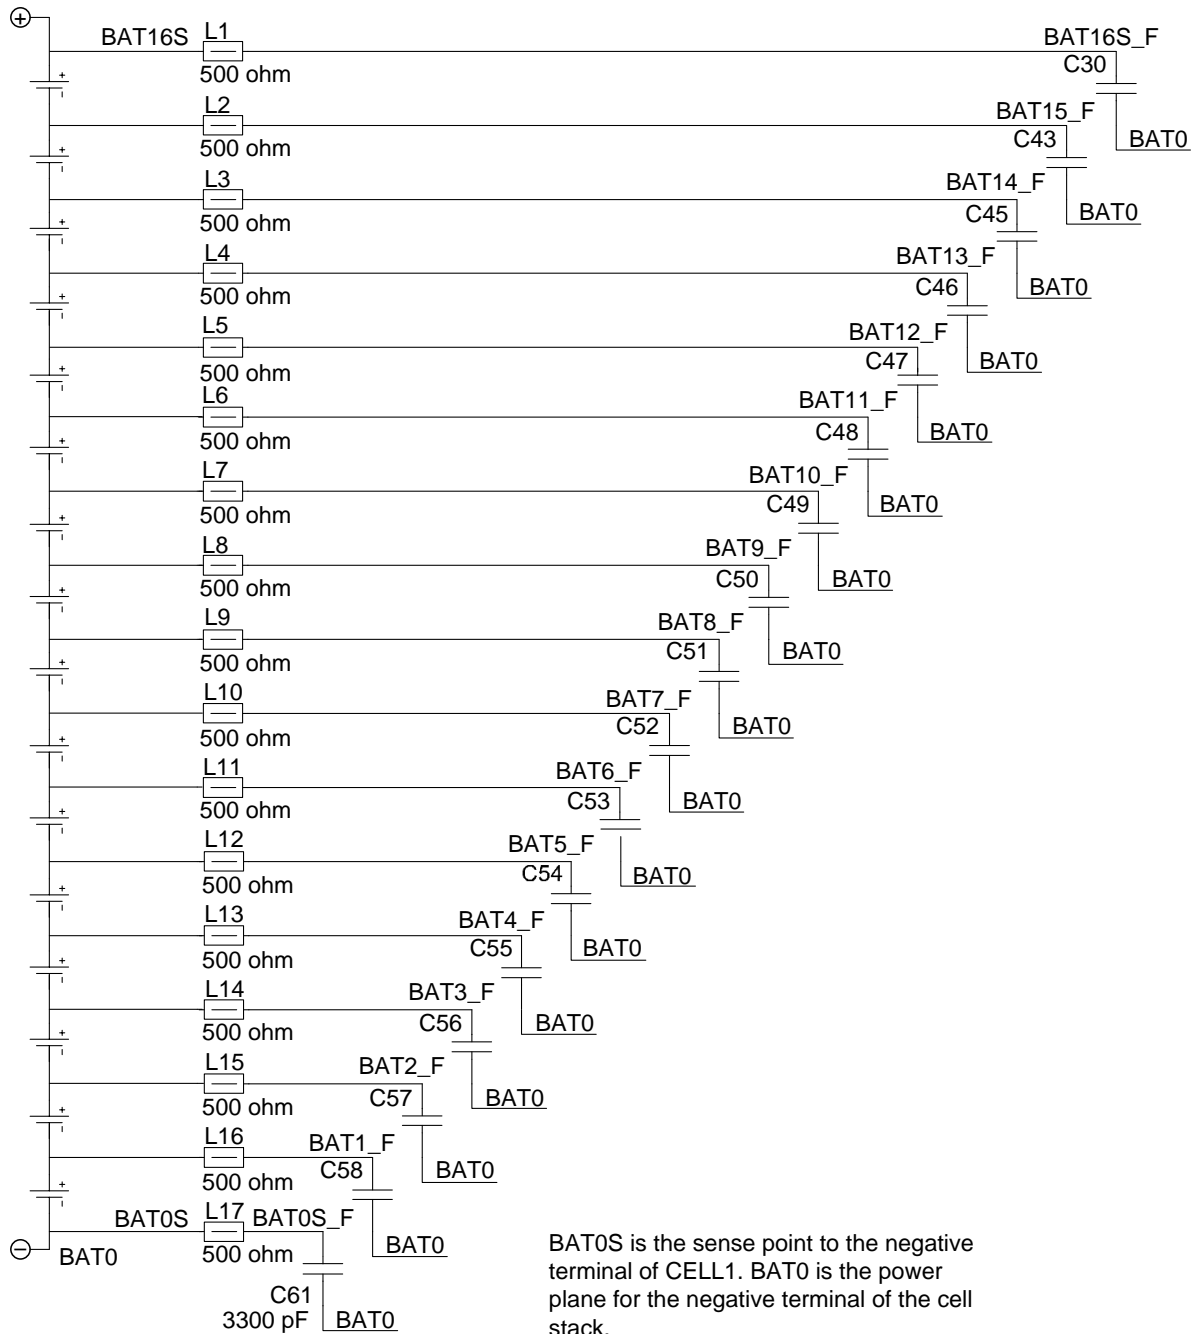

Figure 29. EMC Filter on Cell Inputs
- Add a 0.0033- μF capacitor from each cell input to the battery pack (BAT0 in Figure 29). Adjust the value of capacitance to satisfy the PCB layout and field conditions for the application.